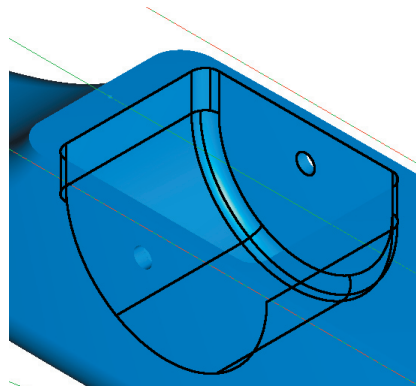
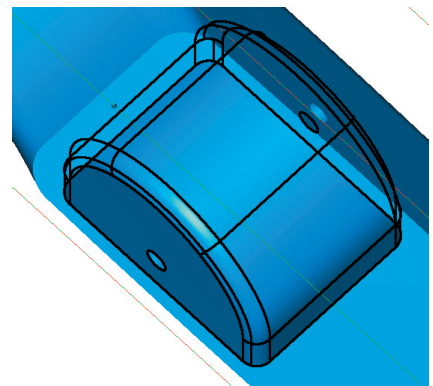

Fig. 20
Fig. 21
Step 4. Click all the surfaces inside the wheel cutout. The edges will highlight when selected, **Fig. 20**. Use **Alt key and Down arrow key** to rotate view to select all surfaces, **Fig. 21**.